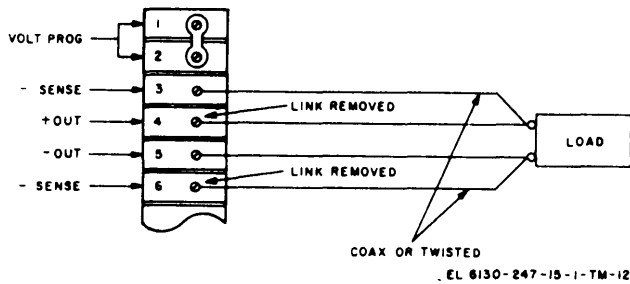

Figure 2-5. Power Supply PP-3940A/G, connections for remote sensing.
- c. Connect separate leads from terminals 3 (+SENSE lead) and 4 (+OUT lead) to the positive side of the load, and separate leads from terminals 5 (-OUT lead) and 6 (-SENSE lead) to the negative side of the load (fig. 2-5).